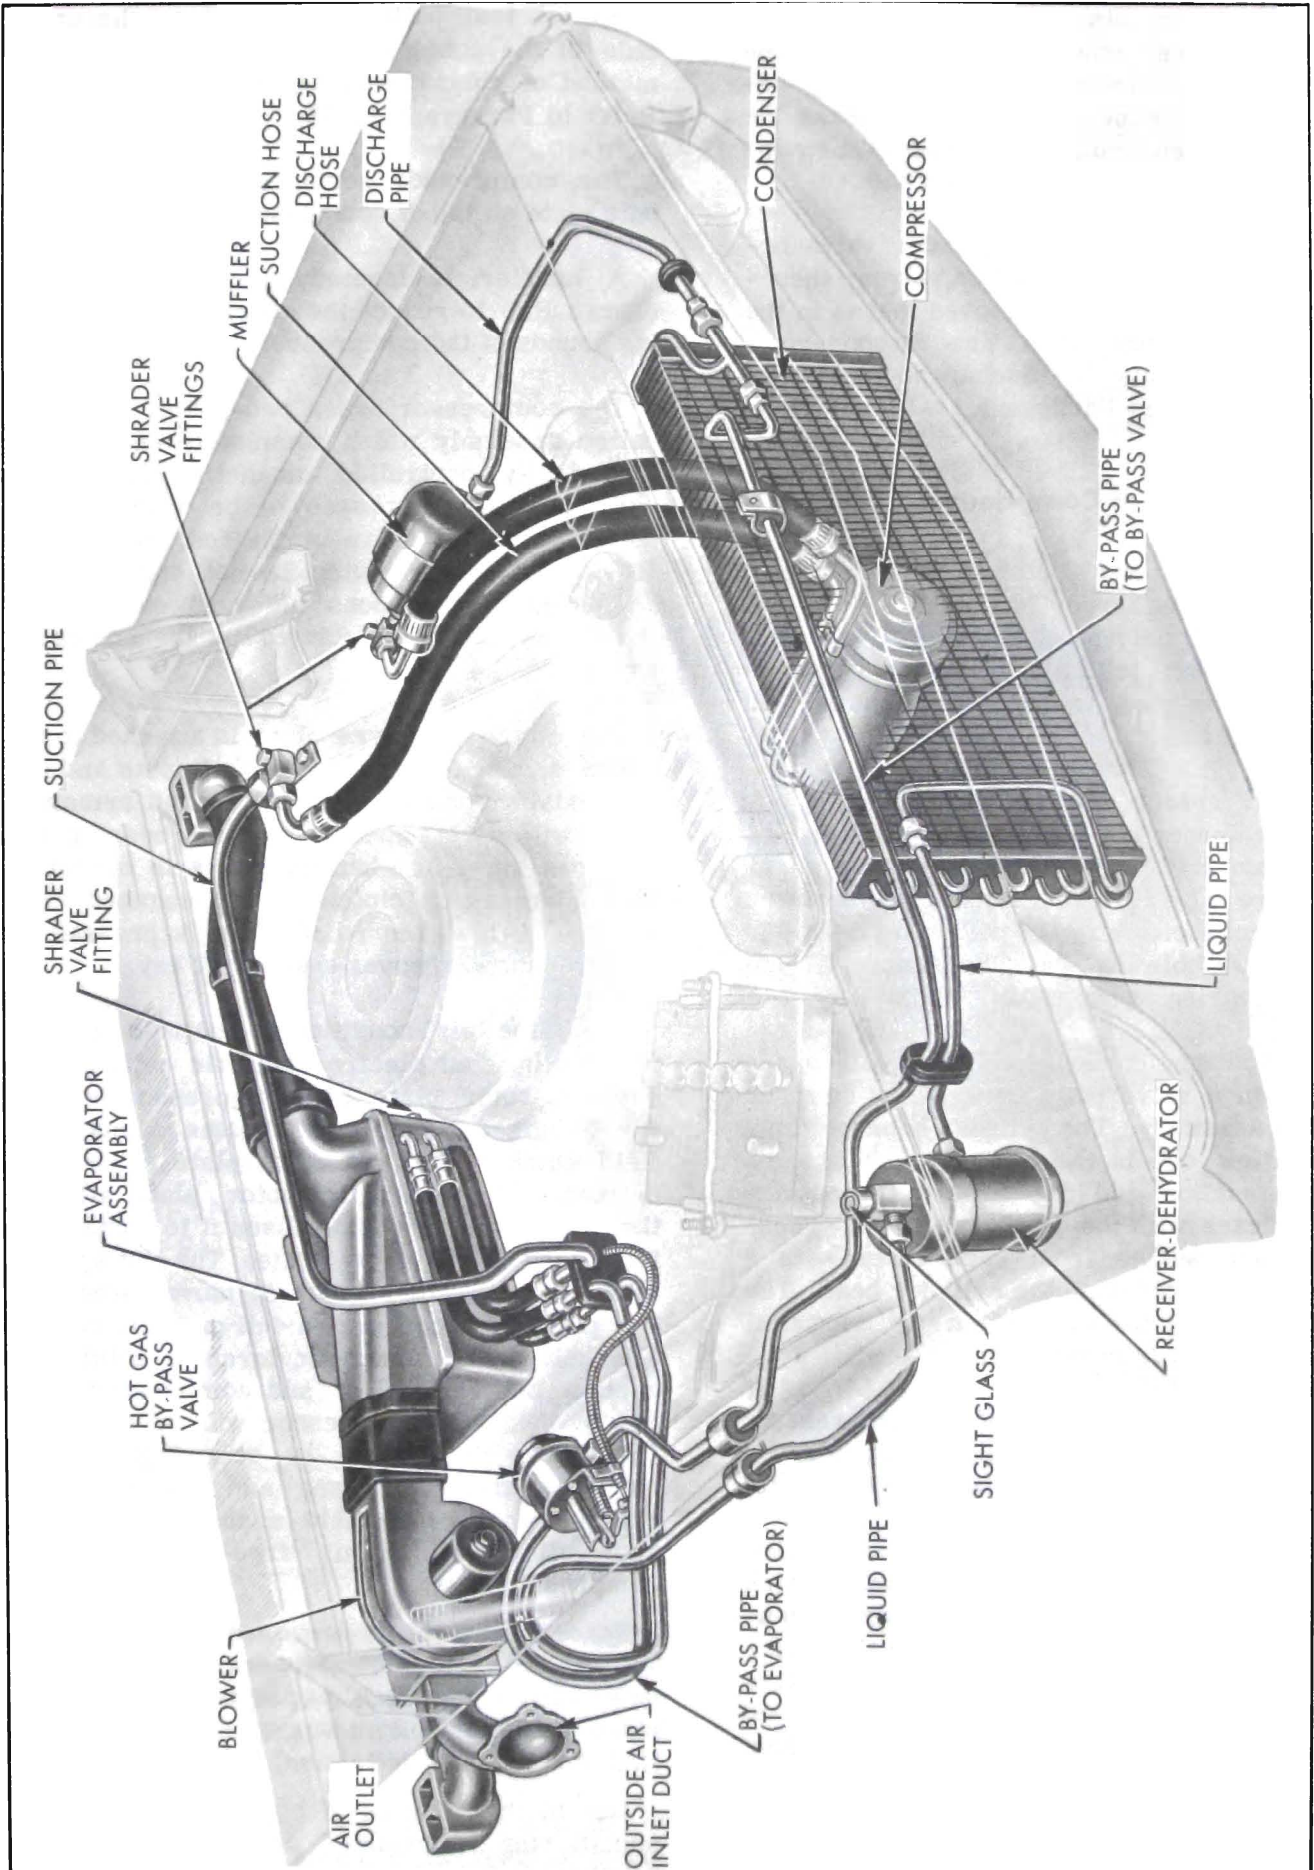

Figure 11-11—Air Conditioner Installation
The compressor, condenser, receiver-dehydrator and hot gas by-pass valve are located in the engine compartment. See Figure 11-11. The evaporator assembly which includes the controls for the air conditioner is centrally located under the instrument panel. The air conditioner blower is located under the right side of instrument panel. Duct work located at air intake of blower permits out-
1. Remove protective caps from schrader valve gauge fittings of suction and discharge lines located on left wheelhouse. See Figure 11-11.